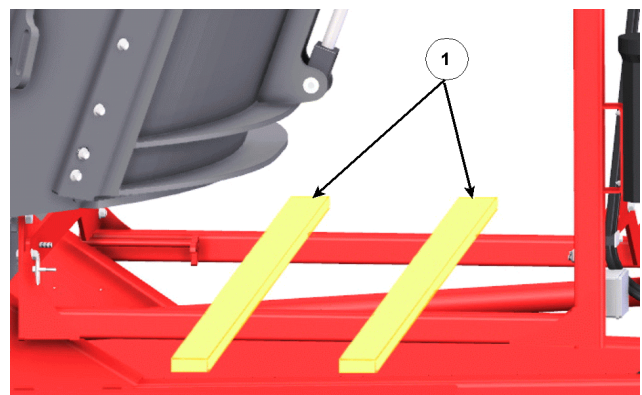

Figure 5: Skids to help with installation of Conveyor
6. To aid in the installation of the conveyor, place skids (1) between the lower support frame of the platform, as shown in *Figure 5*. Use either:
- b. 2 of 1" x 4" x 72" long lumber, shown in *Figure 5*.